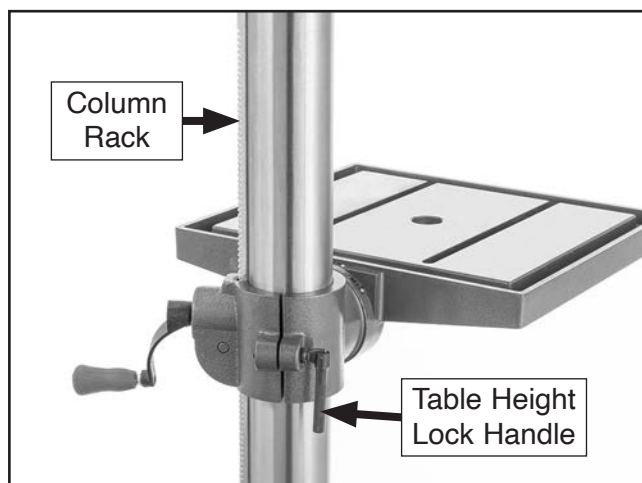

Figure 42. Location of table height lock handle and column rack.
1. Loosen table height lock handle (see **Figure 42**).
2. Rotate table to desired location on column, making sure to guide column rack with table (see **Figure 42**), then tighten table height lock handle to secure.